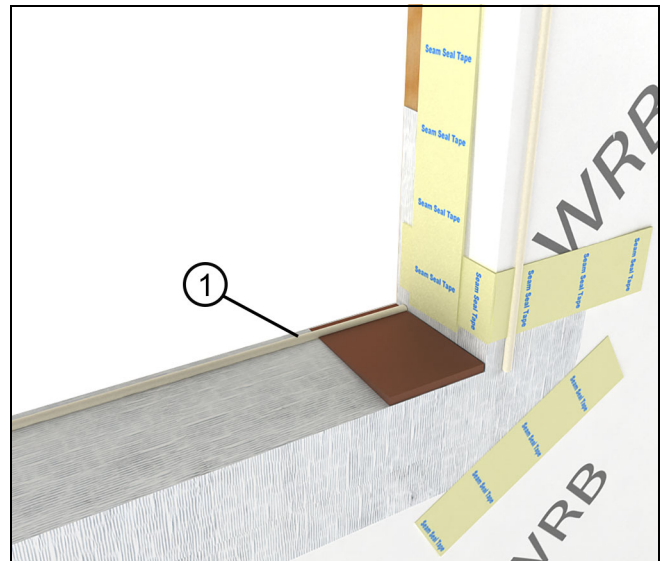

Figure 8
3. Place a bead of sealant 1/4" - 3/8" from interior edge of the RO sill. See Figure 8